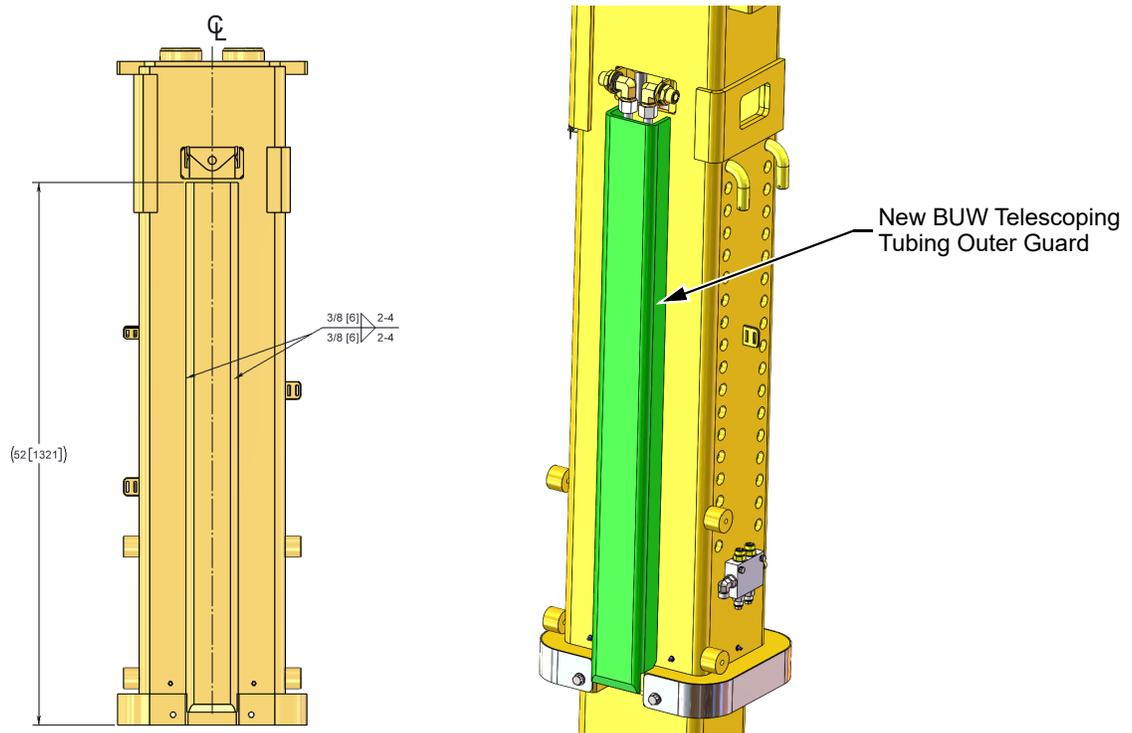

Figure 5: New BUW Telescoping Tubing Outer Guard
1. Position and weld (Item 1) new BUW telescoping tubing outer guard as shown in Figure 5 to the BUW Outer Tube.